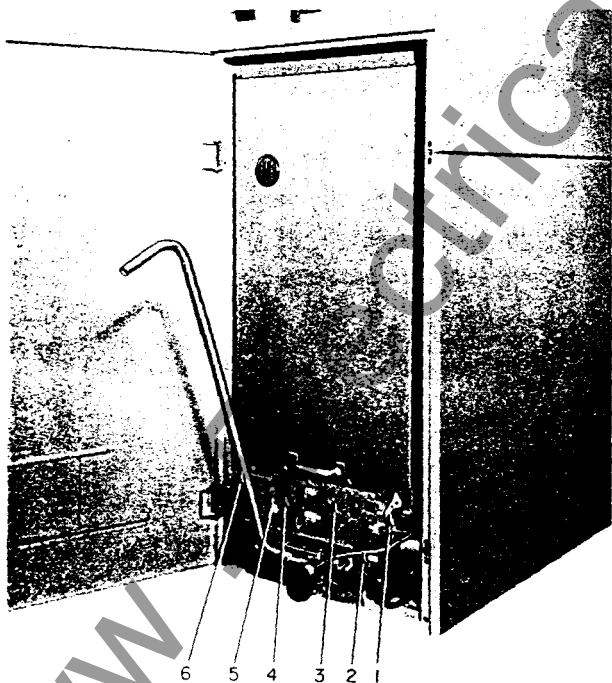

Fig. 4—Method of Insertion of Circuit Breaker into Compartment
- a. Position arc chute (1) on its rear pivot pin and lower slowly into position. **NOTE:** Securely fasten front return connection bar (5) by its nut (6).
C. RACKING CIRCUIT BREAKER TO "DISCONNECT" POSITION (See Fig. 4)
1. Engage racking crank (2), push racking unlocking lever (1) clockwise and rotate racking screw counter-clockwise as far as possible.
2. By means of the fifth wheel (6), guide and push circuit breaker into compartment as far as possible.
3. Engage racking crank (2) and rotate clockwise until racking mechanism automatically stops in "DISCONNECT" position. (The breaker is now held captive in the compartment.)
D. RACKING CIRCUIT BREAKER TO "TEST" POSITION (See Fig. 4)
1. Push racking unlocking lever (1) clockwise and rotate the racking crank (2) clockwise approximately 1/4 turn and release unlocking lever. Continue cranking until the racking mechanism automatically stops at "TEST" position.
E. CHECKING CIRCUIT BREAKER OPERATION IN "TEST" POSITION (See Fig. 4)
1. Turn charging power switch (5) to "ON" position and springs will automatically charge.
2. Close circuit breaker by means of local close button (4) and trip by local trip button (3), if available.